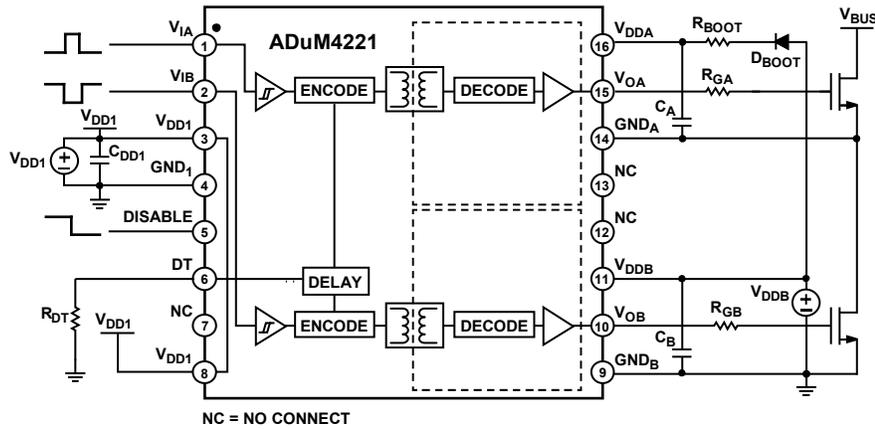

Figure 38. Bootstrapped, Half Bridge Operation Circuit for the ADuM4221
The ADuM4221/ADuM4221-1 include overlap protection such that the gate driver outputs (V_{OA} and V_{OB}) cannot simultaneously go high even if both inputs are high. Additionally, the ADuM4221/ADuM4221-1 also have a dead time control pin (DT) that can adjust the delay between the output high-side and low-side transitions by using a single resistor between the DT pin and ground (see Figure 38). The relationship between the dead time resistor (R_{DT}) and the obtained dead time is shown in Figure 35.
One method to reduce power supplies is to use a bootstrapped configuration for the high-side supply of the ADuM4221 (see Figure 38). A similar setup can also be obtained for the ADuM4221-1/ADuM4221-2. In this topology, the decoupling
Note that in Figure 38, D_{BOOT} is the bootstrapped diode, C_{DD1} is the decoupling capacitor on the input side, and C_B is the decoupling capacitor for the driver low-side supply.